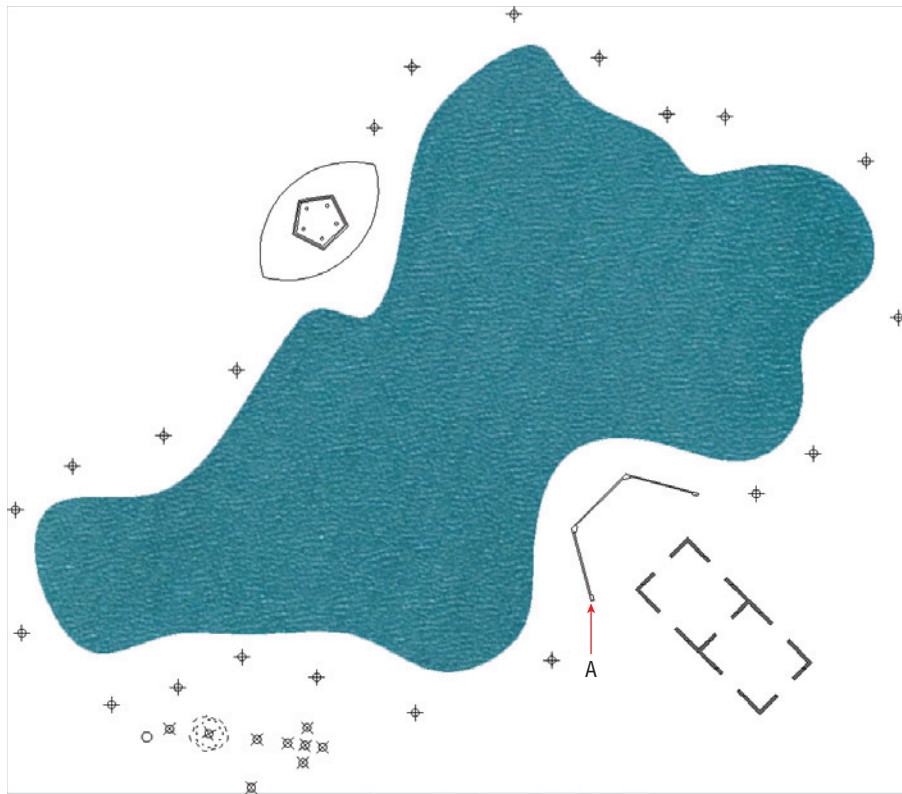

FIGURE 5.1 Initial landscape plan
1. Go to the book's web page at www.sybex.com/go/autocad2014essentials, and browse to Chapter 5 to get the files Ch5-A.dwg (or Ch5-A-metric.dwg) and Pond.jpg. Place them in the same folder on your hard drive, and open the drawing file in AutoCAD (see Figure 5.1).
2. You will begin by drawing curved pathways surrounding the lake. Click the Polyline tool on the Draw panel of the ribbon. Click the first point at point A as shown in Figure 5.1. Type **A** (for Arc), and press Enter.